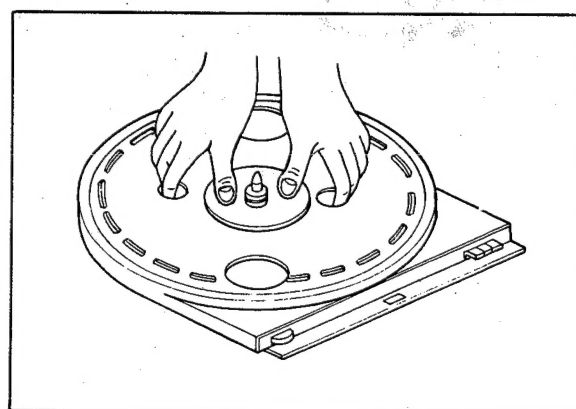

Fig. 2-3. Turntable removal
1. Remove the rubber mat from the turntable, and then insert your fingers into the two holes of the turntable with both thumbs placed on the center spindle as shown in Fig. 2-3.